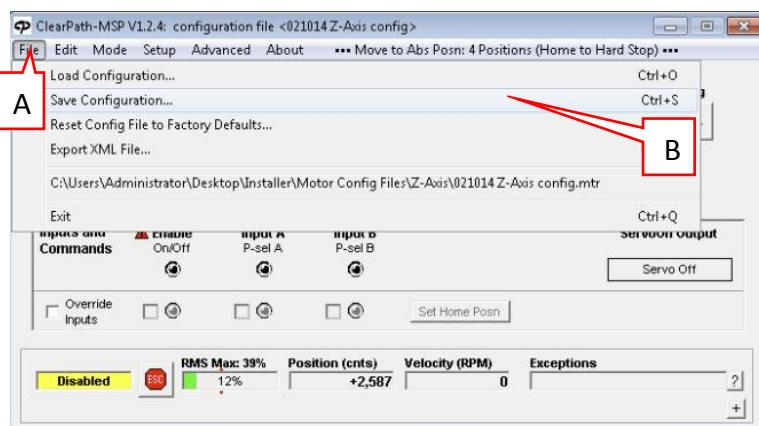

Figure 22 Fine-tuned z-axis motor config
23. Save fine-tuned ClearPath motor config file as shown in Figure 22.